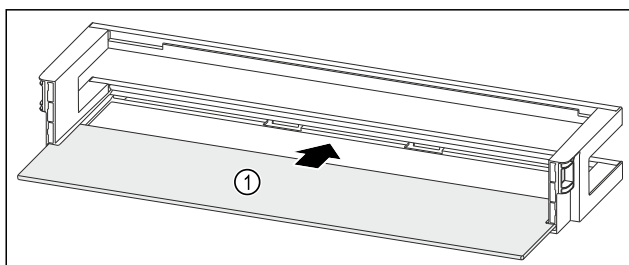

Fig. 148 Door rack with shelf
- Push the shelf Fig. 148 (1) into the side recesses.